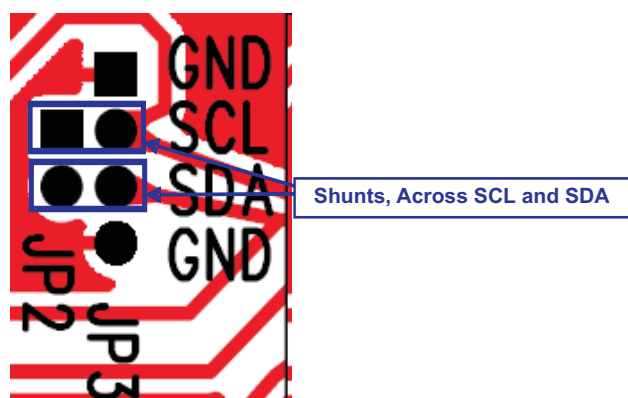

Figure 1. Place Shunts Horizontally Across SCL and SDA
3. Install shunts in JP2 and JP3 as shown in Figure 1. This sets the TPA6130A2 to accept I²C inputs from the EVM itself.